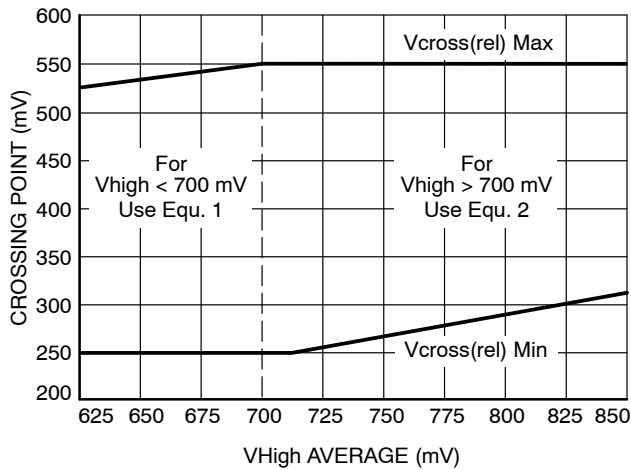

Figure 7. Vcross Range Clarification
29. Vcross(rel) Min and Max are derived using the following, Vcross(rel) Min = $0.250 + 0.5 (V_{\text{avg}} - 0.700)$, Vcross(rel) Max = $0.550 - 0.5 (0.700 - V_{\text{avg}})$, (see Figure 7).